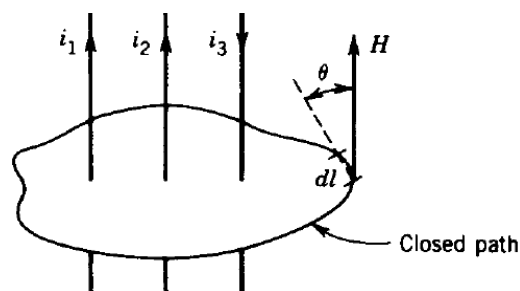

Fig. 10, Illustration of Ampere law
But the number of flux lines is denoted by the magnetic field intensity (H), which is constant either at aa' or at bb' . The relationship between current (i) and field intensity (H) can be obtained from **Ampere Law** which states that the line integral of the magnetic field intensity H around a closed path is equal to the total current linked by the contour, as shown in Fig. 10.